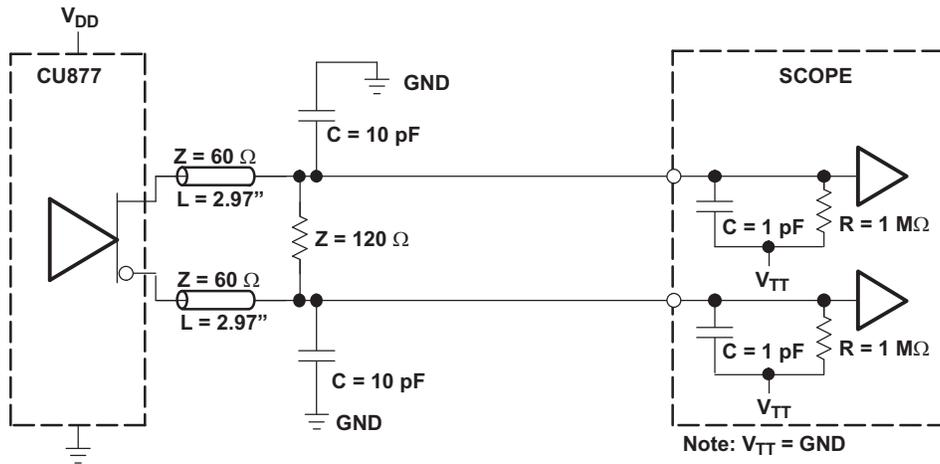
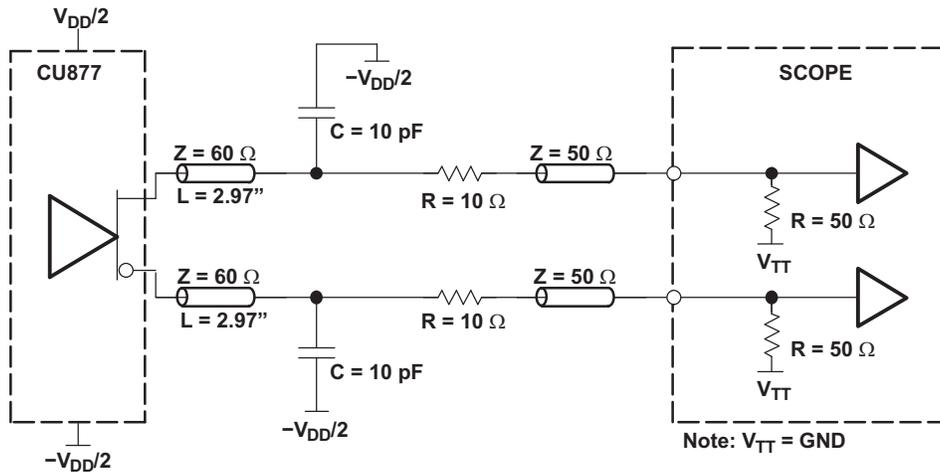

Figure 2. Output Load Test Circuit 1
Figure 3. Output Load Test Circuit 2
- (1) There are two different terminations that are used with the following tests. The load/board in Figure 2 is used to measure the input and output differential-pair cross voltage only. The load/board in Figure 3 is used to measure all other tests. For consistency, equal length cables must be used.
- (2) This parameter is specified by design and characterization.
- (3) Phase static offset time does not include jitter.
- (4) Period jitter, half-period jitter specifications are separate specifications that must be met independently of each other.
- (5) The output slew rate is determined from the IBIS model with a 120- Ω load only.
- (6) To eliminate the impact of input slew rates on static phase offset, the input skew rates of reference clock input CK and \bar{CK} and feedback clock inputs FBIN and \bar{FBIN} are recommended to be nearly equal. The 2.5-V/ns skew rates are shown as a recommended target. Compliance with these typical values is not mandatory if it can adequately shown that alternative characteristics meet the requirements of the registered DDR2 DIMM application.
- (7) Output differential-pair cross voltage specified at the DRAM clock input or the test load.
- (8) V_{OX} of CDCU877A is on average 30 mV lower than that of CDCU877 for the same application.